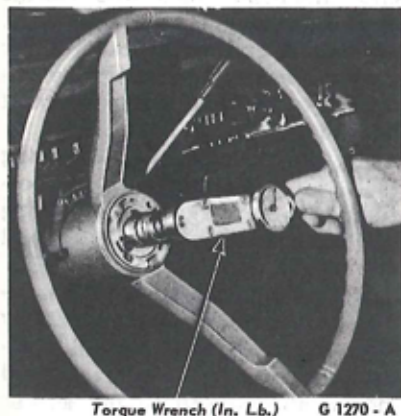

FIG. 4—Checking Pre-Load
7. Measure the worm bearing preload by attaching an in.-lb. torque wrench to the steering wheel nut (Fig. 4). With the steering wheel off center, read the pull required to rotate the input shaft approximately $1\frac{1}{2}$ turns either side of center. If the torque or preload is not within specification (Part 3-6), adjust as explained in the next step.
11. Turn the sector adjusting screw clockwise until the specified pull (Part 3-6) is necessary to rotate the worm past its center high spot (Fig. 4). No perceptible backlash is permissible at 30° on either side of center.